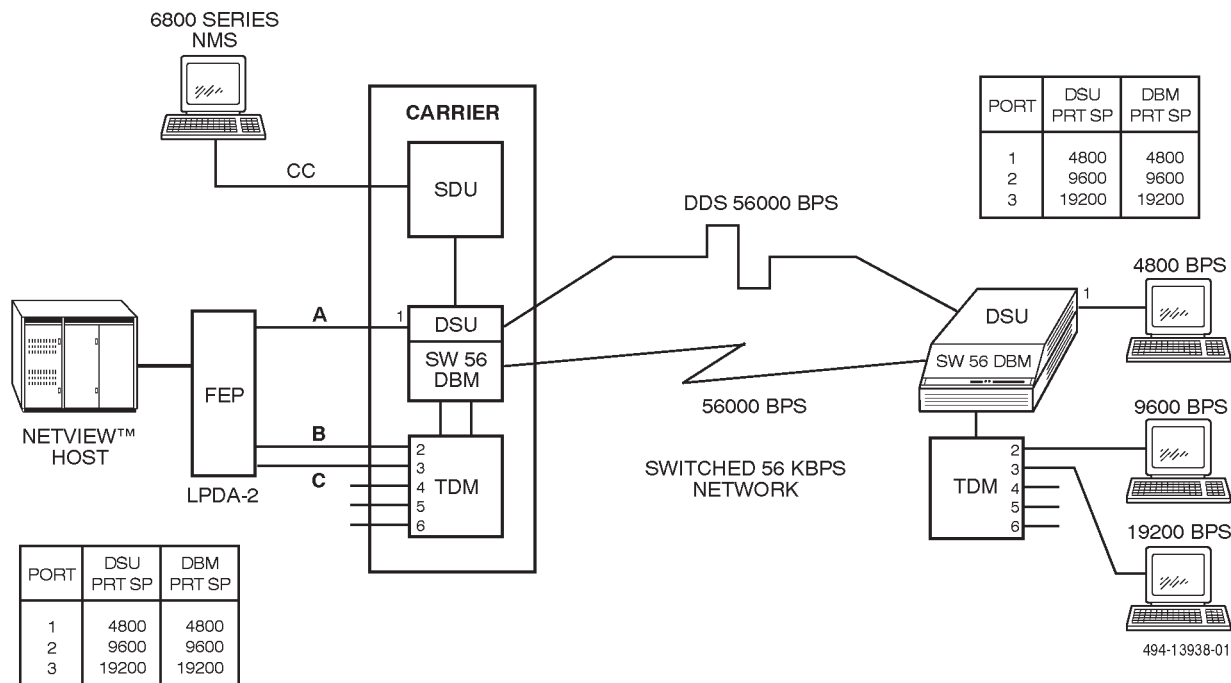

Figure 4-14. Case 4 – Switched 56 DBM Backup for DSU Operating at 56 kbps or Less
- **Case 4 – Switched 56 Backup for DSU operating at 56 kbps or less** (Figure 4-14). The Switched 56 DBM provides full backup of point-to-point single